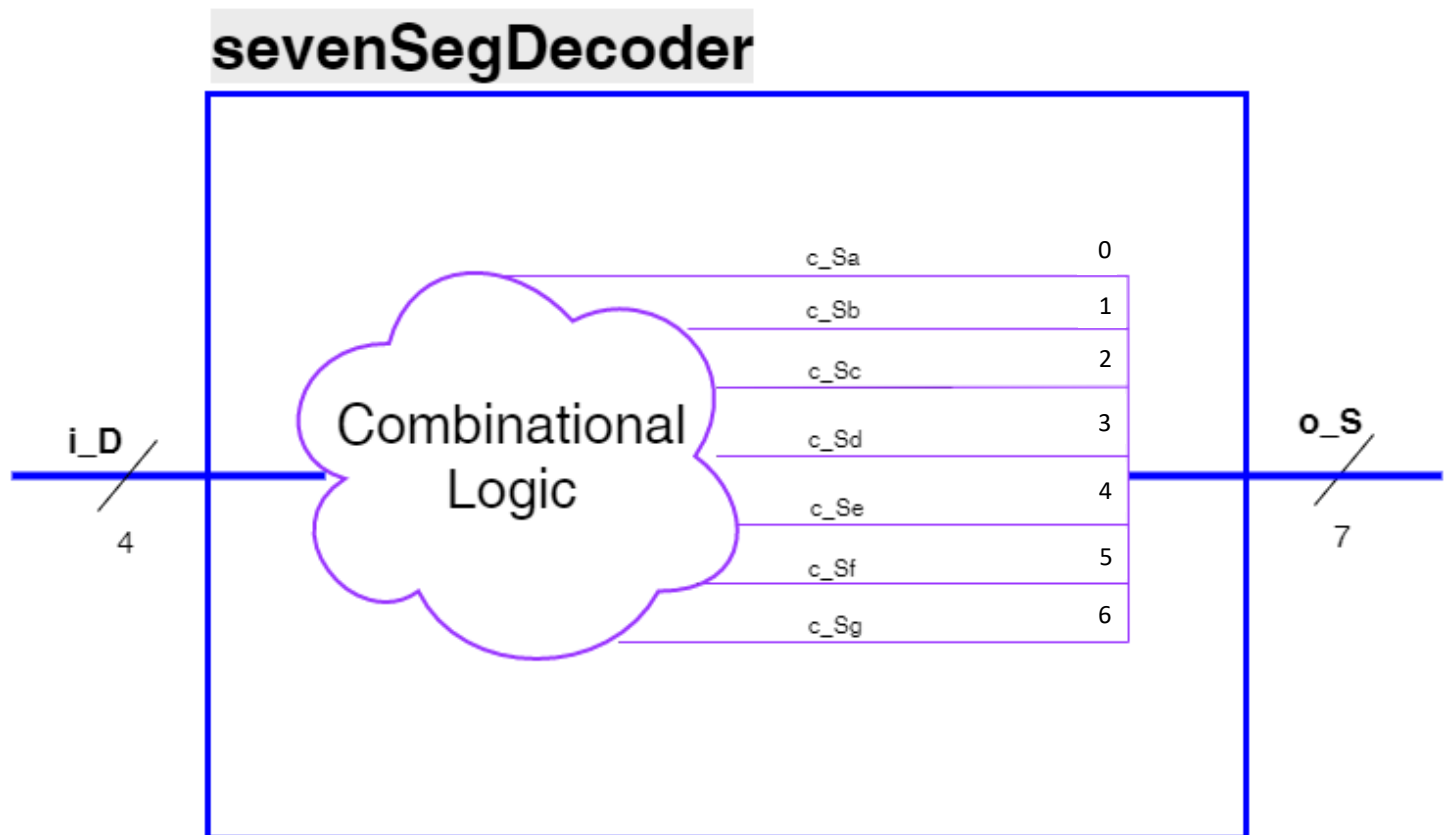

Figure 3 – sevenSegDecoder entity and architecture
**Create your interface (ports) for your sevenSegDecoder according to Figure 3 below.** Figure 3 shows the sevenSegDecoder module entity interface in blue and the architecture in purple. Notice that the figure indicates that the input, *i\_D*, is a bus of 4 wires, and the output, *o\_S*, is a bus of 7 wires. This can be created in VHDL by using a **std\_logic\_vector** signal type. For instance, *i\_D* could be created in the **port** statement with the following:
After you have created your component interface, you need to describe the architecture. Figure 3 on the previous page shows that the output of the combinational logic produces a signal for each 7SD segment (c\_Sa ... c\_Sg). These combinational signals (denoted by the "c\_" at the beginning) are wired to each bit of the output segment bus (o\_S). The bit numbers are labeled in the diagram. For instance, BIT0 of o\_S is wired to c\_Sa.
- In the CONCURRENT STATEMENTS section, map the output S to the signals you created above per Figure 3. For instance: